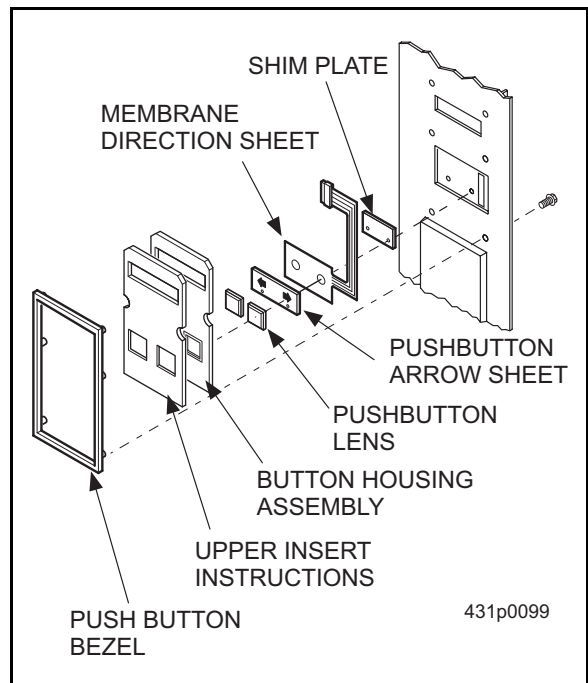

Figure 31
4. Remove the screws securing the push button bezel to the front of the monetary door (figure 31). Remove the bezel.